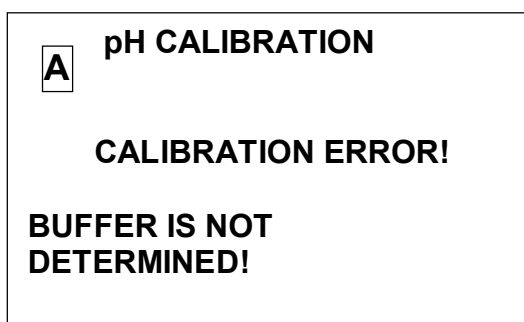

Fig. 2.15
- 8 If pH of the buffer solution is not determined automatically, the display shown in Fig. 2.15 shall come up. Refer to Section 2.5 of the Operation Manual (Troubleshooting. Table 2.4). If "menu enter" button is pressed, analyzer shall enter into **MENU** mode.
- 14 If pH of the buffer solution is not determined automatically, the display shown in Fig. 2.15 shall come up. Refer to Section 2.5 of the Operation Manual (Troubleshooting. Table 2.4).